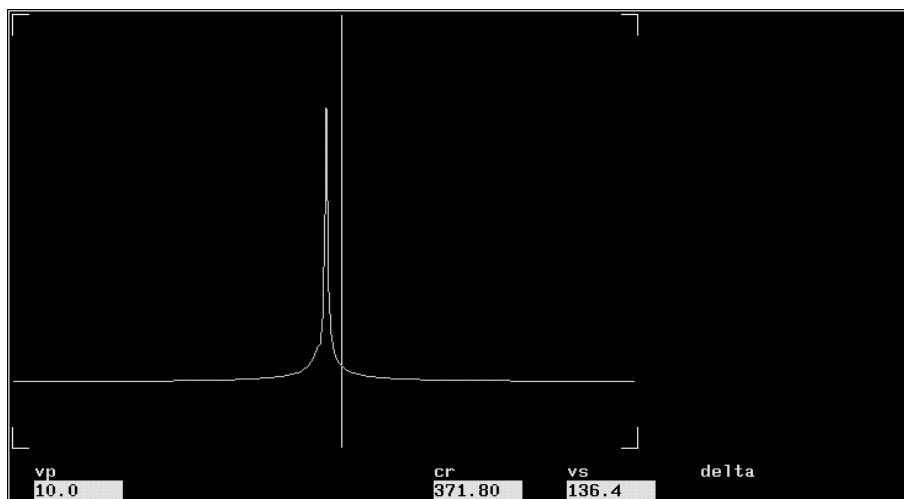

Figure 115. On-Resonance Condition
3. Enter `ft` to Fourier transform the data, and then move the cursor on the line in the spectrum and enter `movetof` to set the spectrometer frequency to the cursor value. Your display should be similar to the display in Figure 115.